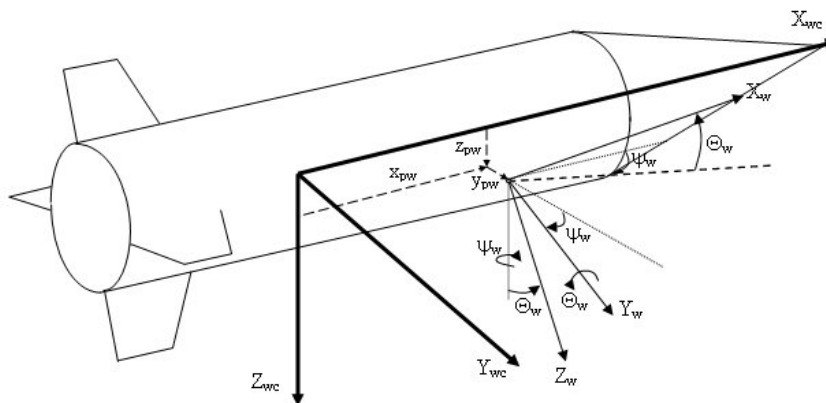

Figure 2 The warhead carrier coordinate system
- ψ_w Rotation of warhead around the z-axis, see Figure 2.
- Θ_w Rotation of warhead the rotated y-axis, see Figure 2.